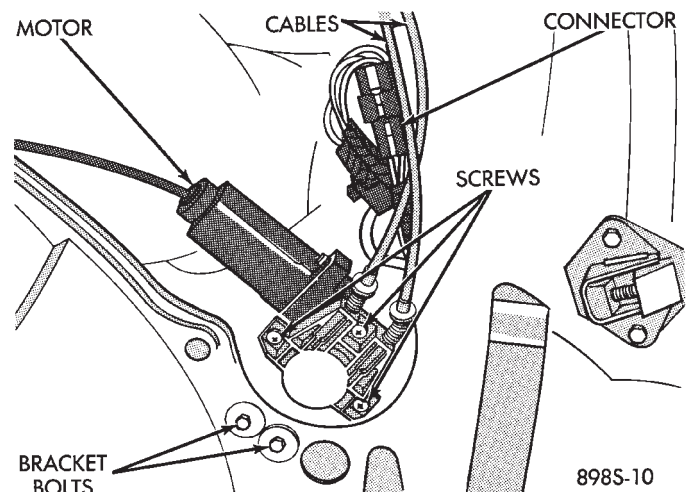

Fig. 11 Cable Attaching Screws
- (1) Position cable to motor making sure cable pulley engages with motor and install three screws (Fig. 11).
- (2) Engage pivot to quarter glass.
- (3) Install crank mechanism bolts and pull mechanism rearward while tightening (Proper alignment is required for smooth non-binding operation).
- (4) Install cable retaining clip.
(5) Install upper and lower trim panels for the left side or one piece trim panel right side.
(6) Install B pillar garnish molding and seat belt.
(7) Install side door scuff plate and upper track cover.
(8) Install front door scuff plate, liftgate scuff plate, rear seat(s) and windshield side garnish molding.
- (1) Remove rear quarter trim panel.
- (2) Disconnect wiring connector.
- (3) Remove three screws attaching motor to cable (Fig. 11).
- (4) Remove two bolts attaching motor bracket to quarter panel.
- (5) Remove motor.